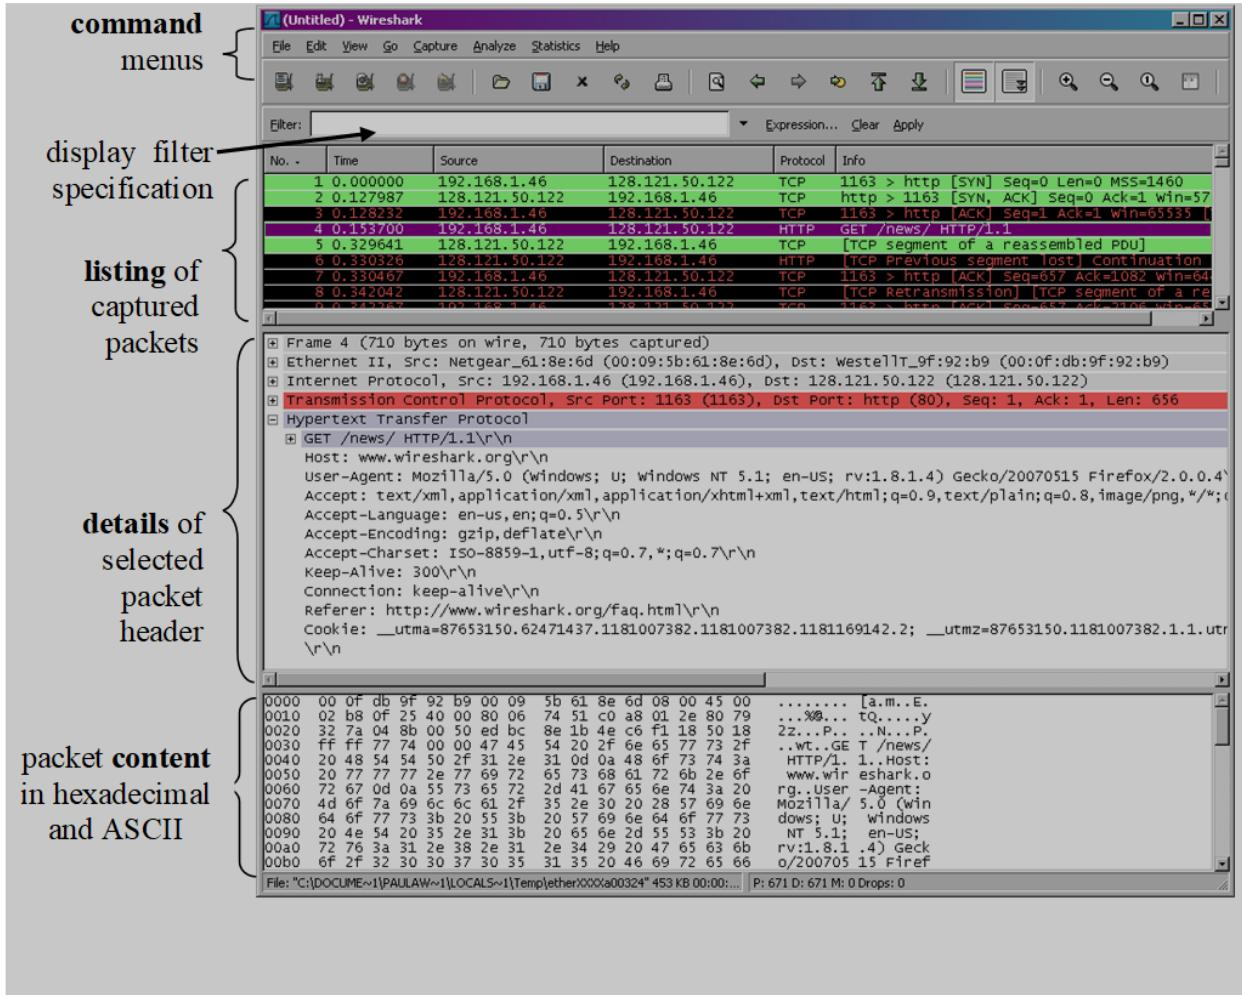

Figure 4.3: Wireshark Graphical User Interface during packet capture and analysis
The Wireshark interface has five major components as shown in Figure 4.3. These are described below:
4. Double-click on the interface that you wish to capture packets on (i.e., the network interface you use for Internet access). Packet capture will now begin - Wireshark is now capturing all packets being sent/received from/by your computer! Once you begin packet capture, a window similar to that shown in Figure 4.3 will appear. This window shows the packets being captured. By selecting Capture pulldown menu and selecting *Stop*, you can stop packet capture. But don't stop packet capture yet.
6. After your browser has displayed the INTRO-wireshark-file1.html page (it is a simple one line of congratulations), stop Wireshark packet capture. The main window should now look similar to Figure 4.3.
7. You now have live packet data that contains all protocol messages exchanged between your computer and other network entities! The HTTP message exchanges with the gaia.cs.umass.edu web server should appear somewhere in the listing of packets captured. But there will be many other types of packets displayed as well (see, e.g., the many different protocol types shown in the *Protocol* column in Figure 4.3). Even though the only action you took was to download a web page, there were evidently many other protocols running on your computer that are unseen by the user. We'll learn much more about these protocols as we progress through the text! For now, you should just be aware that there is often much more going on than “meet's the eye”!